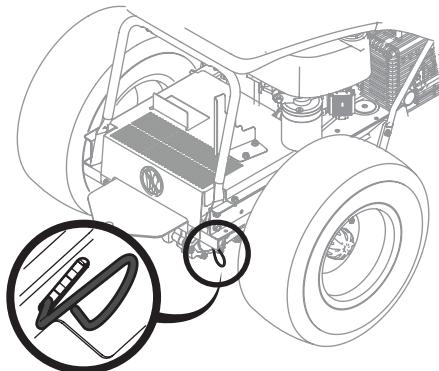

Figure 1
1. Engage the transmission bypass rod to move the riding mower manually without starting it. The transmission bypass rod is located on the inside of the right tire near the rear of the riding mower. Engage the bypass rod by pulling out and down. See Figure 1.